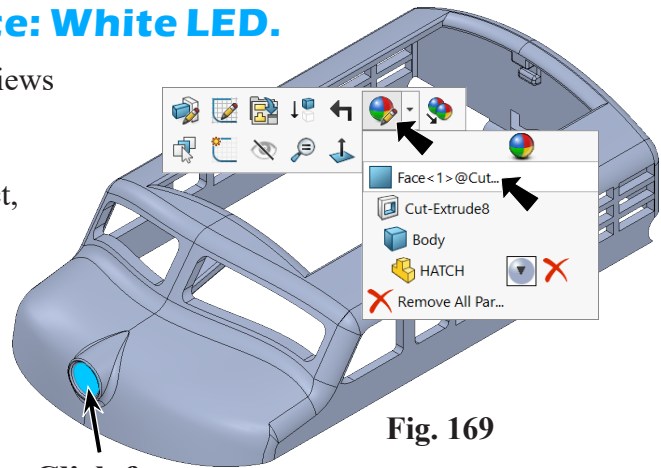

Fig. 169
Step 2. Click the Headlight circular face to select, click **Appearance Callout**  on the Context toolbar and click **Face 1** , **Fig. 169**.